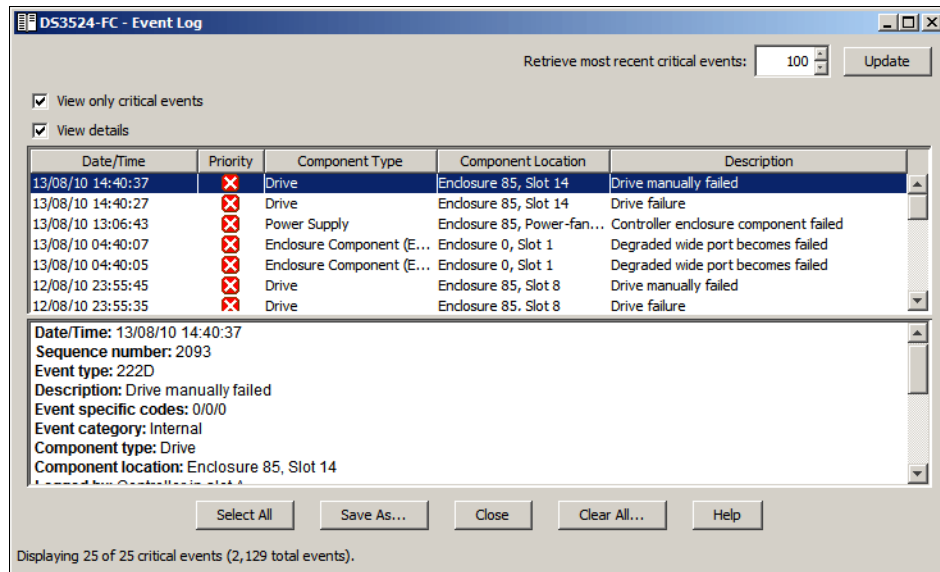

Figure 14-94 View only Critical Events
- ▶ **View only critical events:** Select this to display only the critical events as shown in Figure 14-94.
- ▶ **View details:** Select this check box to view the details of a highlighted event in the lower half of the window as shown in Figure 14-94.